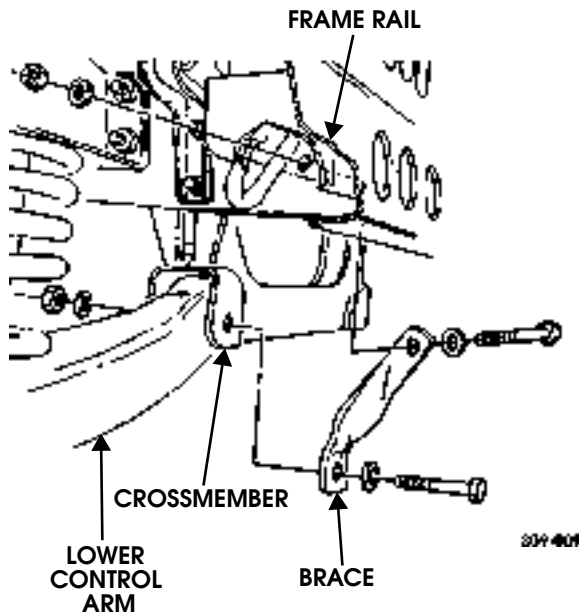

Figure 9-123: Front Suspension Brace Replacement for Vehicles Without Winch
1. Remove locknut, washer, bolt, and washer securing brace to frame rail (Figure 9-123).
1. Install brace on crossmember and lower control arm with washer, bolt, washer, and locknut. Do not tighten locknuts (Figure 9-123).